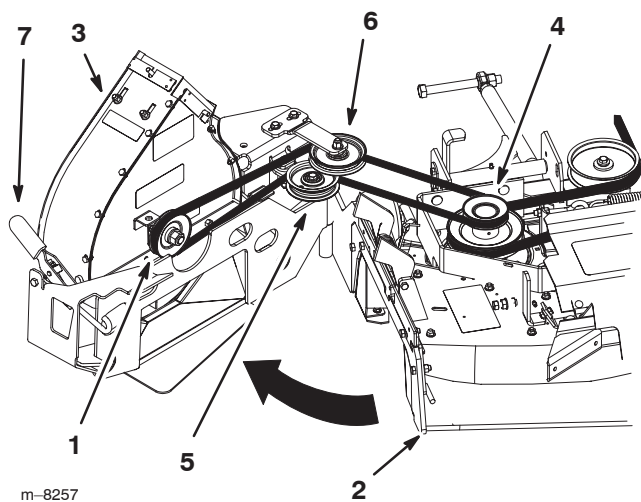

Figure 17
3. Open the blower assembly (Fig. 17).
4. Push down on the front latch (colored red) and open the blower assembly (Fig. 17).
6. Route the bagger belt around the **top pulley of the mower pulley assembly** (Fig. 17).
7. Feed the belt between the idler pulleys (Fig. 17).
8. Route the bagger belt around the **spring-loaded idler pulley** (Fig. 17). The backside of belt will be touching the pulley.
9. Route the bagger belt around the **fixed idler pulley** (Fig. 17).
10. Route the bagger belt around the **blower pulley** (Fig. 17).